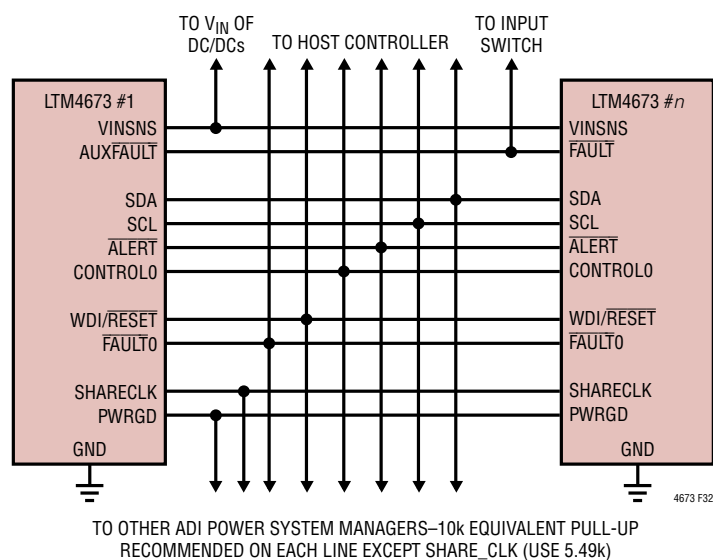
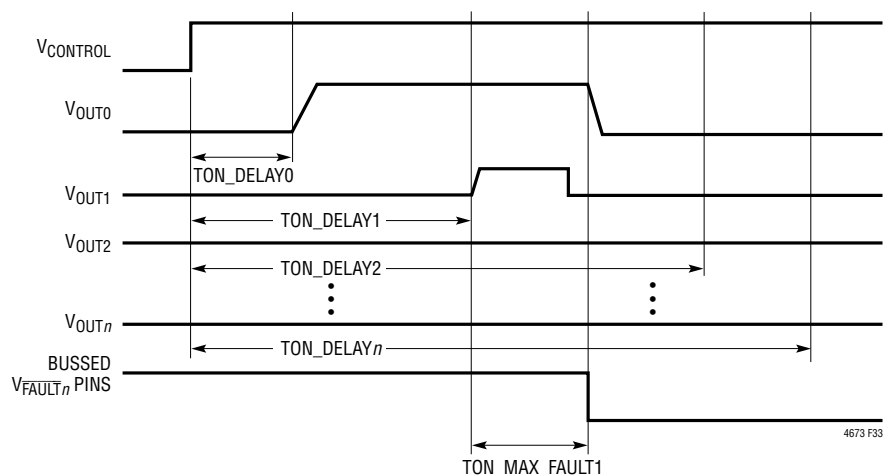

Figure 32. Typical Connections Between Multiple Analog Devices Power System Managers
Figure 33. Aborted On-Sequence Due to Channel 1 Short
Figure 32 shows how to interconnect the pins in a typical multi-LTM4673 array.
- The $\overline{\text{FAULT}}$ lines can be connected together to create fault dependencies. Figure 32 shows a configuration where a fault on any $\overline{\text{FAULT}}$ will pull all others low. This is useful for arrays where it is desired to abort a startup sequence in the event any channel does not come up (see Figure 33).
- `PWRGD` reflects the status of the outputs that are mapped to it by the `MFR_PWRGD_EN` command. Figure 32 shows all the `PWRGD` pins connected together, but any combination may be used.